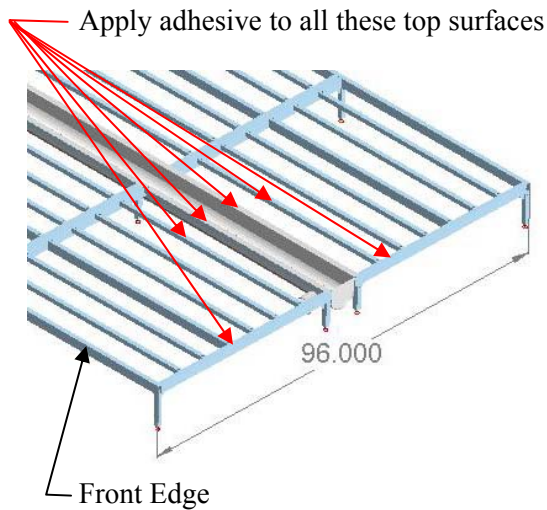

Figure 10
Based on your Quad Kennel System on raised floor order, the installer is required to adjust the distance from the front edge of nearest floor to the front edge of the opposite floor before placing the PVC floor panels. For example, on 8FT Quad Kennel System on raised floor, the distance should be 96 inches as shown in **(Figure 10)**.
8. After making the final plumbing connections and floor adjustments, prepare to attach the Acrylic PVC floor panels to the open kennel floor frames. Lay the PVC floor panels textured surface side up on the kennel floors to make sure they fit properly, and then remove. Apply a generous bead of adhesive (page 5) around the top surface perimeter and cross members of the floor frames **(Figure 10)**.